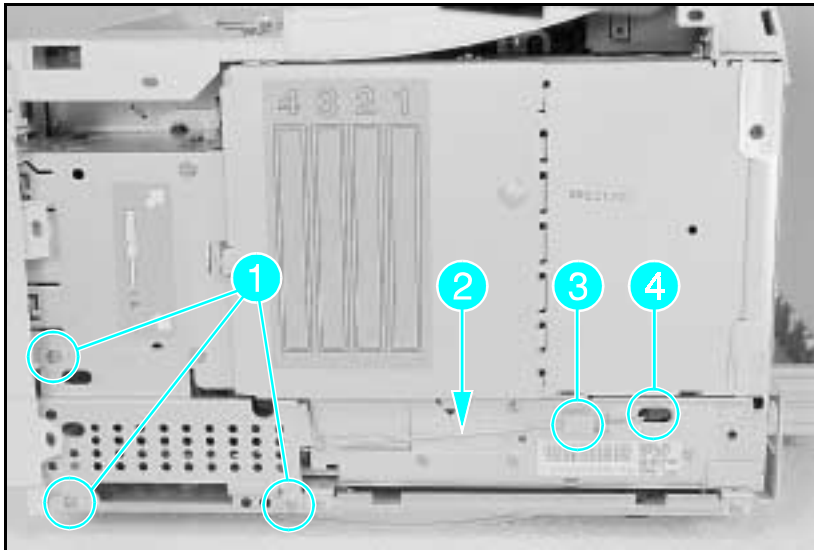

Figure 6-13a Remove the Sheet Metal Plate (LaserJet 4)
- 2** Remove the (3) or (2) screws from the metal cover at the lower right corner of the printer (see Figure 6-13a or b, callout 1.) Remove the metal cover.